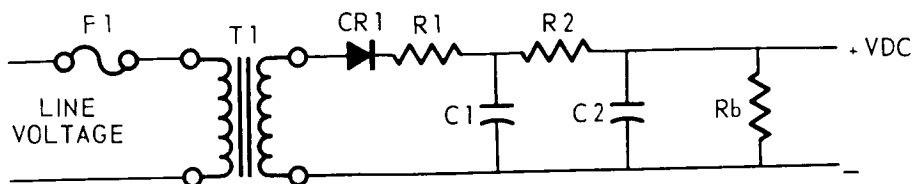
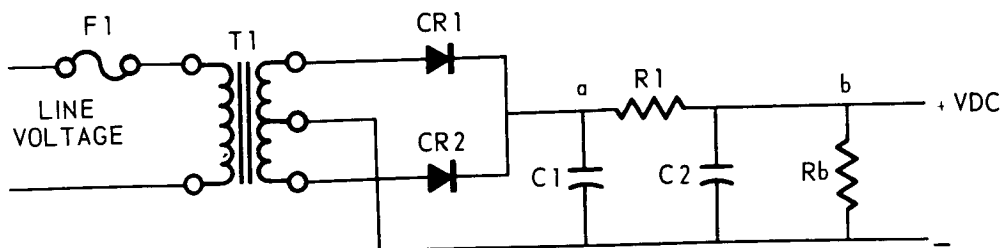
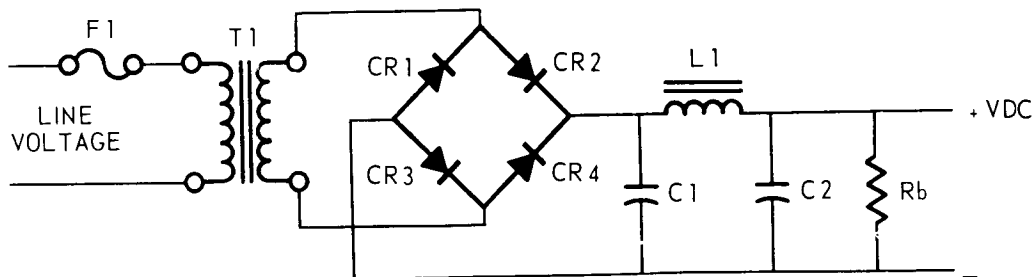

Figure 2-12. Half-Wave Power Supply.
Figure 2-13. Full-Wave Center Tap Power Supply.
Figure 2-14. Full-Wave Bridge Power Supply.
Dc power supply circuits may be of many types, but in small communications equipments will generally fall into one of three types: half-wave (figure 2-12); full-wave center-tap (figure 2-13); and full-wave bridge (figure 2-14). The half-wave supply is used to supply low-current, constant load circuits, such as the bias supply for the power amplifier stage(s) of a transmitter. The full-wave bridge and full-wave center-tap supplies are used with heavier, higher-voltage loads such as the B+ for an entire transmitter or receiver.
- (1) Disconnect the power supply and measure the power supply internal resistance to determine if there is a short or an unusually low resistance.
- (2) Measure the dc load resistance in the transmitter with the power supply disconnected. Remember the continual fuse blowing indicates excessive current flow, which is usually caused by a short in the circuit. However, the short circuit may not appear as a direct short (zero ohms) if there is a series dropping resistor.
- (3) With the power supply circuit disconnected from its load, insert a good fuse in the power supply and turn it on again. This time if the fuse blows, the fault is obviously in the power supply. If it doesn't blow, start looking in the transmitter for the fault. Some components may break down only when high voltage is applied; this latter method is the simplest way to isolate the faulty function in this event.
The method of (1) above, is probably the most useful technique. Refer to figure 2-13. Two resistance measurements at point b (across the bleeder resistor, with the load disconnected) can tell you a lot about the power supply circuit. Assume you measure 20K ohms, then reverse the leads and measure 300 ohms. The power supply is probably alright! The first measurement reflects only the impedance of the bleeder resistor, R_b – if either of the capacitors or the diodes were shorted, you would probably read a fairly low resistance. The diodes are reverse biased by the ohm-meter voltage, and have a very high reverse resistance. The second measurement reflects the resistance of resistor R_1 , the forward resistance of the diodes, and the parallel resistance of the transformer secondary windings.
In this problem, the receiver uses a 300v, full-wave rectifier similar to figure 2-13. To isolate the faulty function, step 4, you measure the voltage of the power supply and find that the $B+$ is only 225 volts. What function contains the fault? Obviously something is wrong in the power supply.
- Q2. Figure 2-13 is a +100 volt power supply circuit. No voltage is measured at point b, but 130 volts is measured at point a. The probable fault is component _____.
- Q3. A voltmeter indicates that a +300 volt bridge rectifier circuit (figure 2-14) is only supplying +180 volts. The possible trouble could be:
- Q4. The line fuse in the full-wave bridge circuit of figure 2-14 keeps blowing. Which of the components listed could be at fault?
- A2. Figure 2-13 is a +100 volt power supply circuit. No voltage is measured at point b, but +130 volts is measured at point a. The probable fault is the resistor R1. The resistor must be open. The voltage at point a is high because there is no load current.
- A3. A voltmeter indicates that a +300 volt bridge rectifier circuit (figure 2-14) is only supplying +180 volts. The possible trouble could be:
- A4. The line fuse in the full-wave bridge circuit of figure 2-14 keeps blowing. Which of the components listed could be at fault?